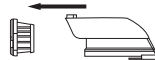

Abb. 3
- Remove the HEPA filter (13) from the dust container (14) (fig. 3).
- Remove dust and debris from the dust container (14).
- Wash the separator (18) and the HEPA filter (19) under a warm water jet and dry them (pic. 11, 12). Do not dry the HEPA filter (19) with a hairdryer or similar appliances.
- Wash the dust bin flask (17) and dry it (pic. 11).